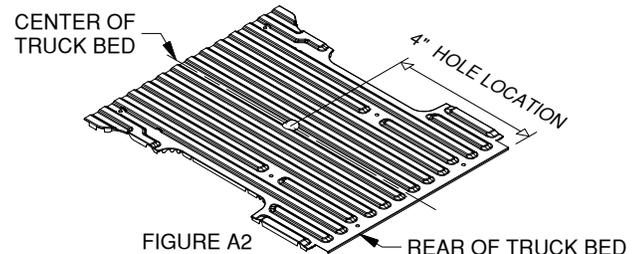

FIGURE A2
- 7. Mark the 4" hole location.** Using a tape measure hooked over the rear edge of the bed (at tailgate end), measure the location for the hole as shown in Figure A2. Next, locate the center of the bed by measuring the distance between the wheel wells and dividing by two. The center of the hole will be at the intersection of the center of the bed and the first distance measured.